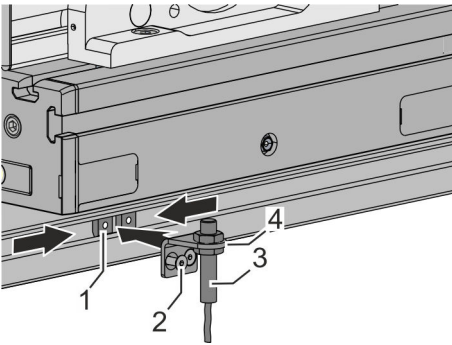

Fig. 39: Assembling the limit switch
1. ➤ Insert and position the slot stones (Fig. 39/1) in the slot of the guide profile.
2. ➤ Place the limit switch (Fig. 39/3) along with a mounting bracket (Fig. 39/4) at the height of the inserted slot stones.
3. ➤ Tighten 2 screws (Fig. 39/2):